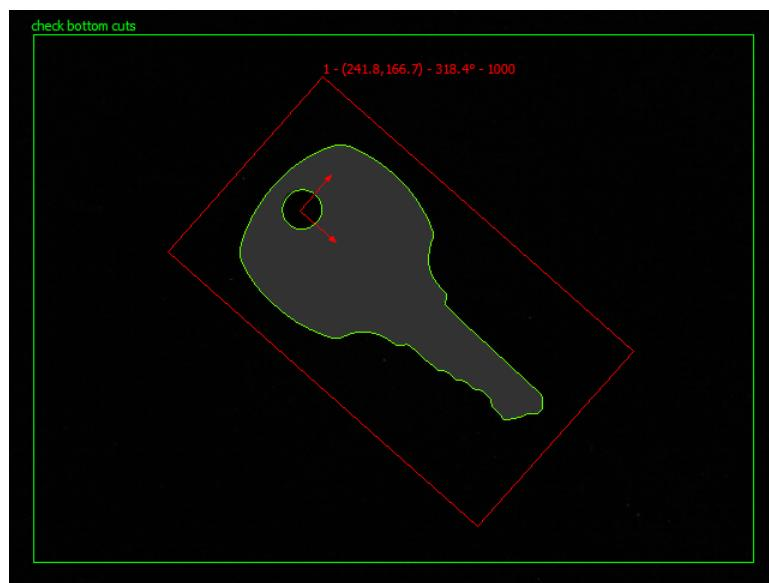

Figure 10.3: Typical expected results for the *Geometric Matching* step.
- Create a second *Geometric Matching* step to match the master key when it is flipped to its back side. Figure 10.3 on the facing page illustrates typical expected script results.